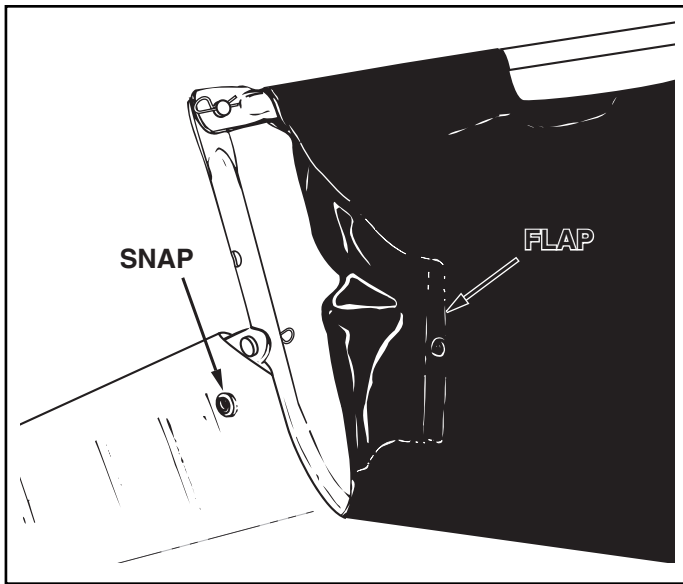

FIGURE 15
- Secure the bag corners around the lower hopper tubes by snapping the bag flaps to the bag bottom. See figure 15.